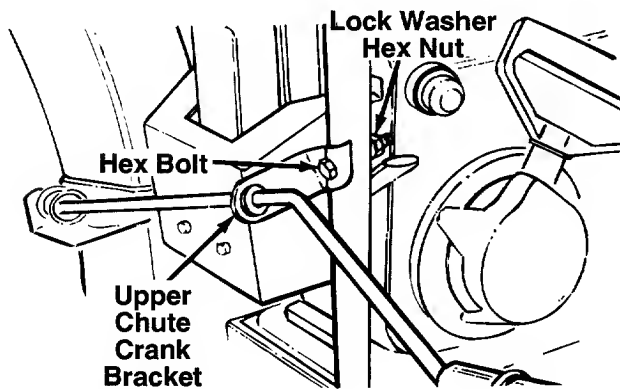

FIGURE 4.
- Insert hex bolt through the upper chute crank bracket. See figure 4.